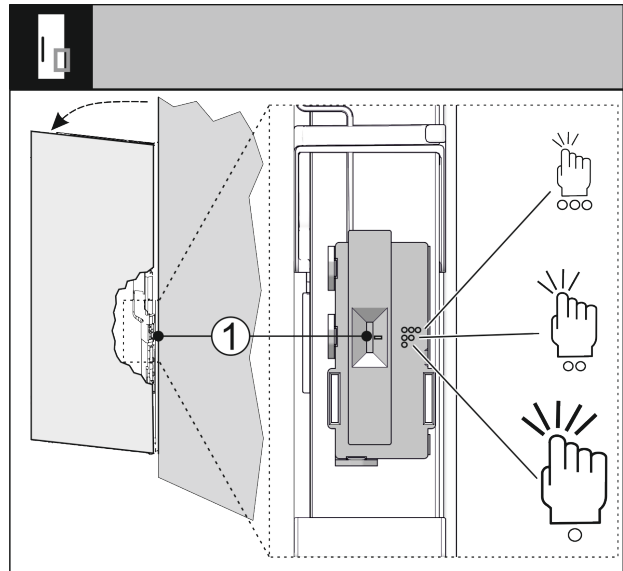

Fig. 70
You can use a switch Fig. 70 (1) to adjust the sensitivity of the knocking sensor. The switch is on the bottom third of the door on the hinge side.
- ▶ Move the switch Fig. 70 (1) to the required switch position.